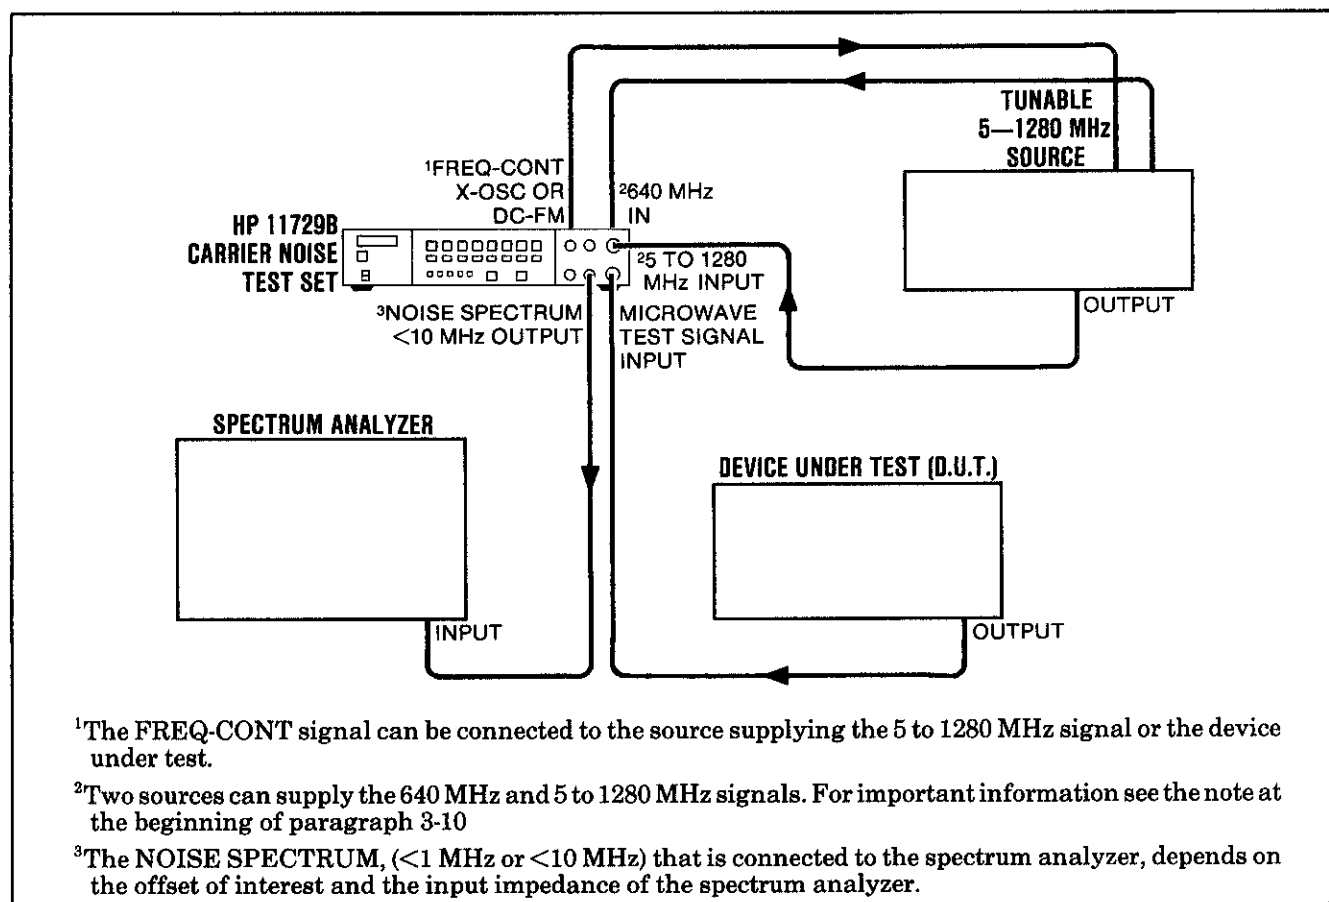

Figure 3-5. Interconnections to the Carrier Noise Test Set when making a Phase Noise Measurement (Using the Phase Detector Method)
1. Figure 3-5 shows the interconnections to the Carrier Noise Test Set when making a phase noise measurement.